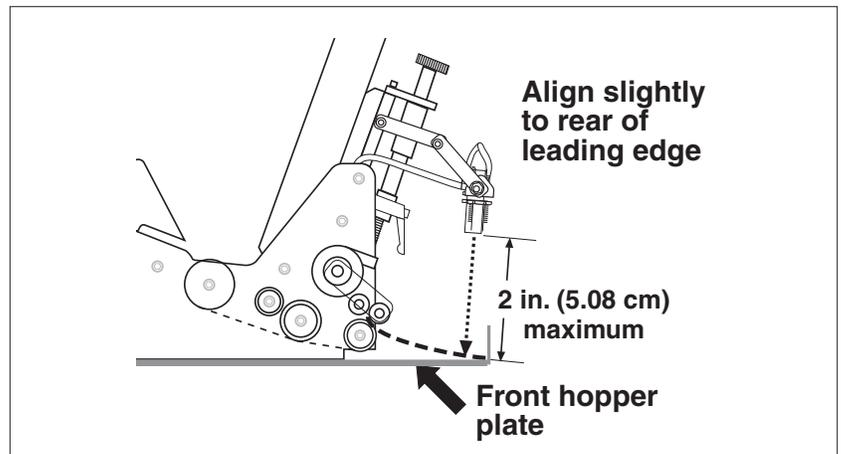

Figure 27. Optimum Alignment of Photo Sensor
5. After running several sheets through, turn the feeder power Off by pushing the circle (O) at the **Power On/Off** rocker switch. Adjust the photo sensor as needed to achieve the correct stopping point. *An optimum setting is to aim the barrel slightly to the rear of the leading edge (Figure 27).* This compensates for the slight over-travel of the motor after it turns Off, thus allowing the leading edge to stop in-line with the front hopper plate.